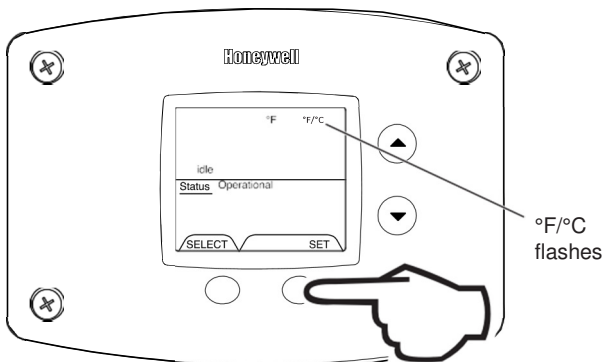

Figure 20
2. Press 'SET' button to change temperature format. Symbol °F/ °C will flash (Fig. 20).